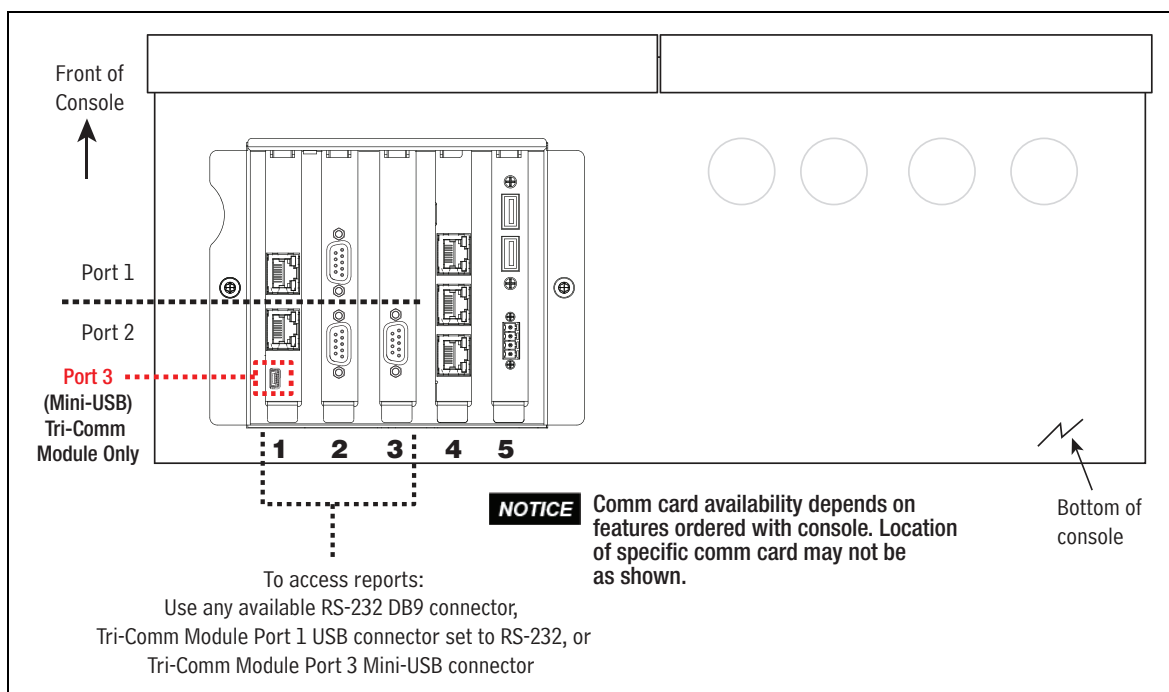

Figure 34. Connect Laptop to an Available RS-232 Comm Port
If using a Tri-Comm Module (slots 1 or 2 only), refer to Figure 34 for Tri-Comm Module locations and Table 11 for Tri-Comm Module port configurations.
2. Select an available RS-232 Comm port on the TLS-450PLUS Comm cage (see Figure 34).